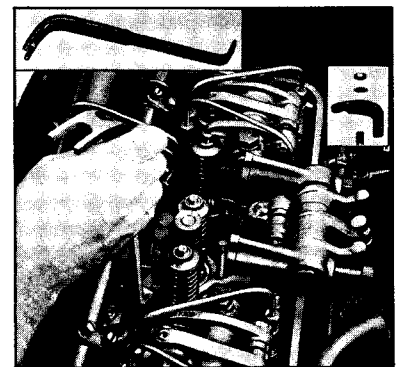

Fig. 2—Removing an Injector.
- (f) If the valve springs and other valve and injector operating mechanism in the faulty cylinder are satisfactory, remove the fuel injector (see Fig. 2) and install a new one as outlined under "Injector Service" in Sec. 2.